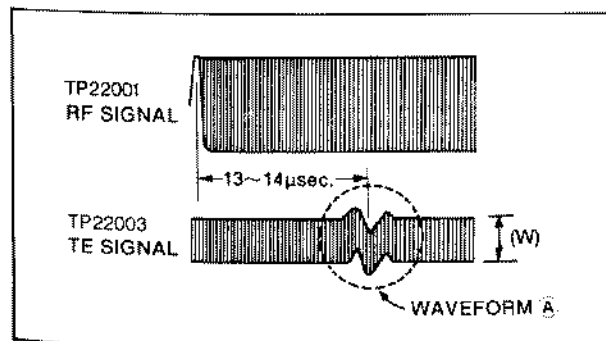

Fig. E15
- Confirm that Waveform (A) becomes as shown in Fig. E15.
- Set the Tracking ON/OFF switch of Servo Gain Fixture to "OFF" from "ON". Then adjust the Grating Hole so that the width (W) is maximize as shown in Fig. E15.
- Set the Tracking ON/OFF switch of Servo Gain Fixture to "ON" again. Then confirm that waveform (A) becomes as shown in Fig. E15.
- Adjust VR22302 (R—ADJ) on the Servo C.B.A. and Tangential (B) Adjustment Screw alternately so that the width (A) of RF Signal is maximize.
Then adjust the Shaft Bearing (B) Adjustment Screw so that the TE signal of TP22003 becomes maximum as shown in Fig. E15.